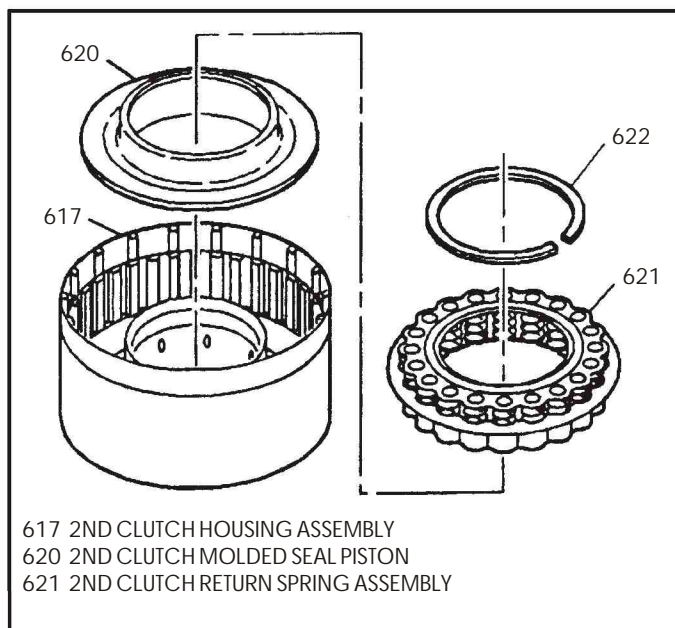

Figure 118
2. Remove the snap ring from the top of the 2nd clutch return spring assembly, using a small screwdriver, and remove the return spring, as shown in Figure 118.
3. Remove the 2nd clutch molded piston (620), as shown in Figure 118.